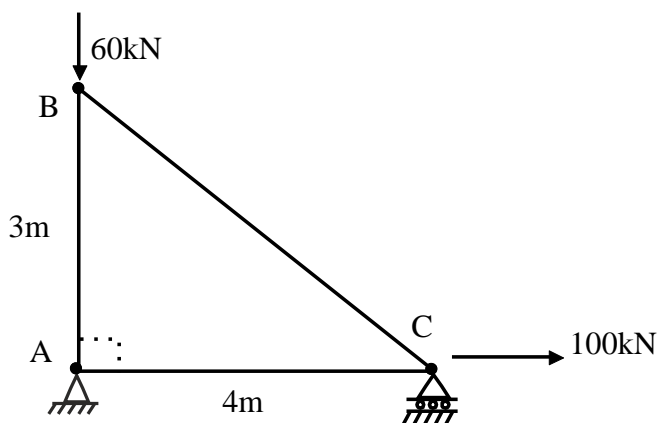

Fig:5
5. Find member forces for the plane truss shown in fig : 5. Member BC is too long by 3 mm. Use stiffness method. c/s area of all members is 600mm^2 . Assume $E = 200\text{ GPa}$. 14